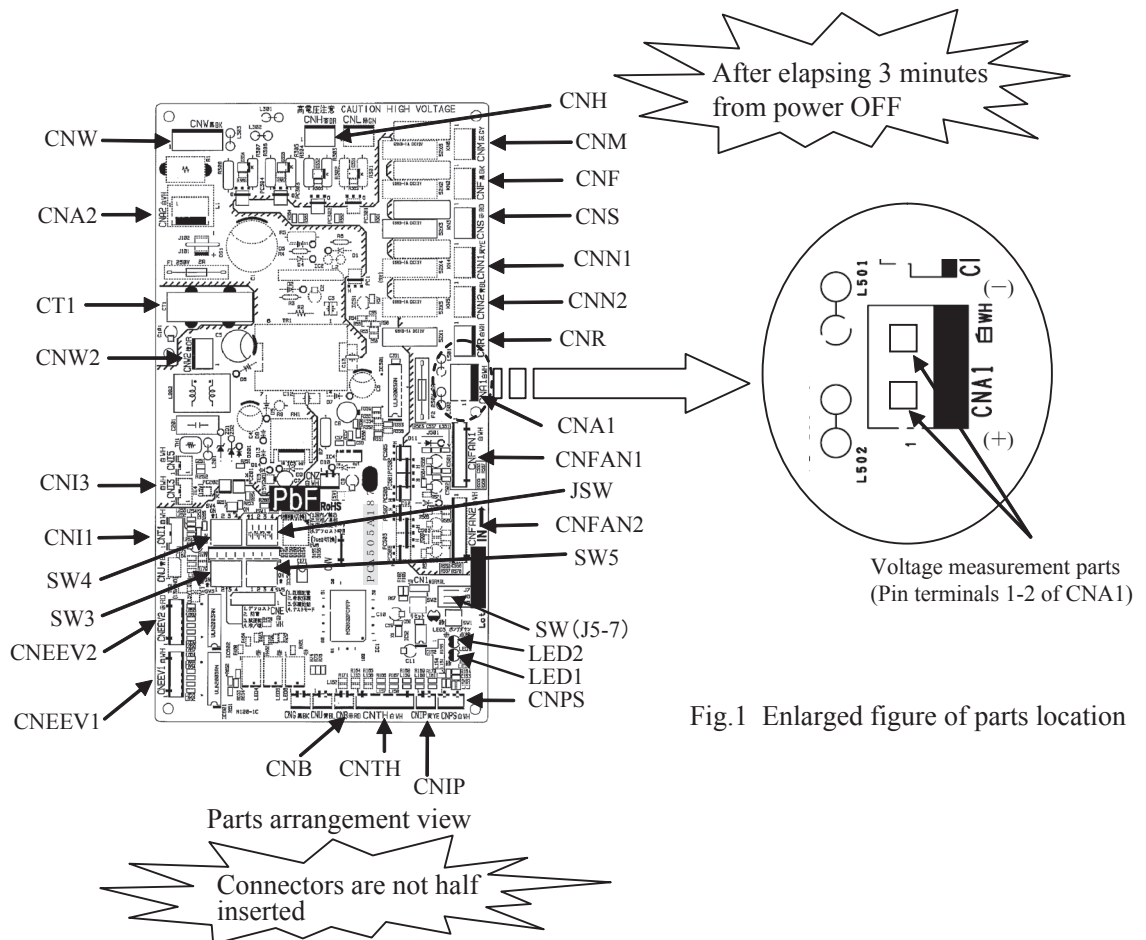

Fig.1 Enlarged figure of parts location
**(Be sure to measure voltage (DC)** on both capacitor terminals located in control back, and **check that the voltage is discharged sufficiently.)**
- 6) Connect the connectors with the control PCB referring to the parts arrangement of Fig. 1.
- a) After the breaker is shut down, remove the service panel, top panel and rear panel. (Refer to Fig.1).